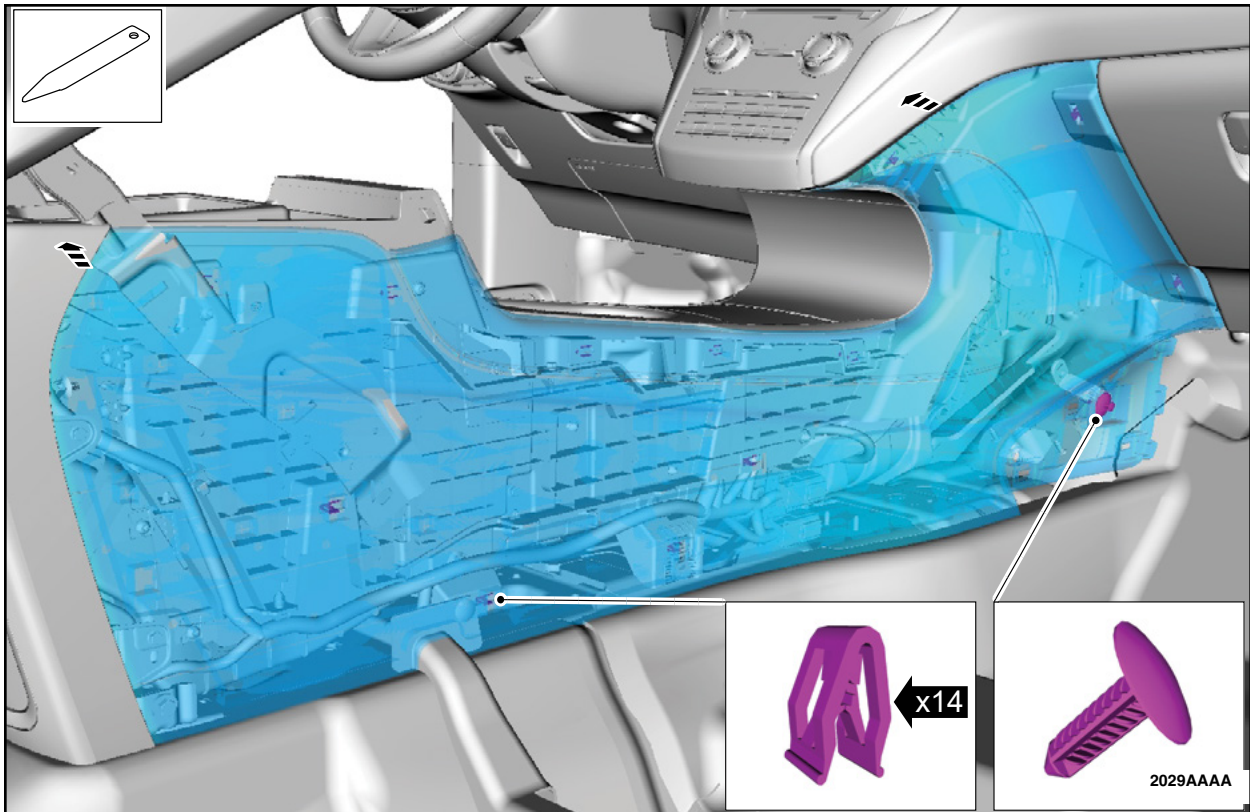

FIGURE 13
16. Install the RH finish panel. See Figure 13.